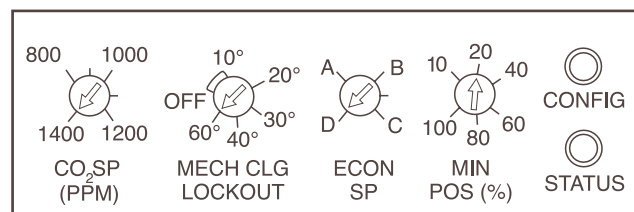

Fig. 40 — EconoMiSer Control Adjustment Potentiometers (Factory Settings)
2. Locate the CO₂ SP (PPM) potentiometer and adjust to the desired set point. See Fig. 40.
Mechanical Cooling Lockout — Determine the outdoor-air temperature at which you want the mechanical cooling (compressors) to be disabled. Locate the mechanical cooling lockout (MECH CLG LOCKOUT) potentiometer. To disable this feature, turn the potentiometer counterclockwise (CCW) to the OFF position. Otherwise, set the value between 10 and 60 F. Mechanical cooling will not operate when the outdoor air temperature is below this value. See Fig. 40.
Dry Bulb Changeover Set Up — Determine the dry bulb changeover set point from Table 3. The settings are A, B, C and D. Locate the ECON SP potentiometer and set the dry bulb changeover set point. See Fig. 40. When the OAT is above this set point, the damper is limited to minimum position setting.
2. Locate the minimum position (MIN POS) potentiometer. Turn the potentiometer full CCW to fully close the outdoor air dampers. Turn the potentiometer gradually clockwise (CW) to the desired position. See Fig. 40.